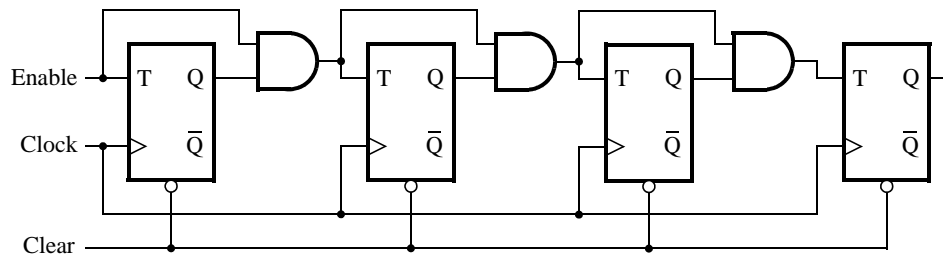

Figure 1: A 4-bit counter.
Consider the circuit in Figure 1. It is a 4-bit synchronous counter which uses four T-type flip-flops. The counter increments its value on each positive edge of the clock signal if the *Enable* signal is high. The counter is reset to 0 on the next positive clock edge if the synchronous *Clear* input is low. You are to implement an 8-bit counter of this type.
1. Write a Verilog file that defines an 8-bit counter by using the structure depicted in Figure 1. Your code should include a T flip-flop module that is instantiated eight times to create the counter. Compile the circuit. How many logic elements (LEs) are used to implement your circuit?
5. Implement a four-bit version of your circuit and use the Quartus RTL Viewer to see how the Quartus software synthesized the circuit. What are the differences in comparison with Figure 1?